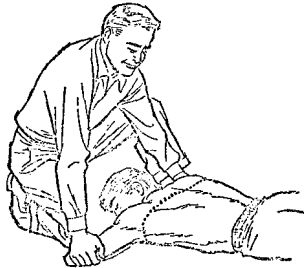

FIGURE 19. Position for Expansion Phase.
- d. Release the pressure, avoiding a final thrust and commence to rock slowly backward. Place your hands upon the victim's arms just above his elbows (Figure 19).